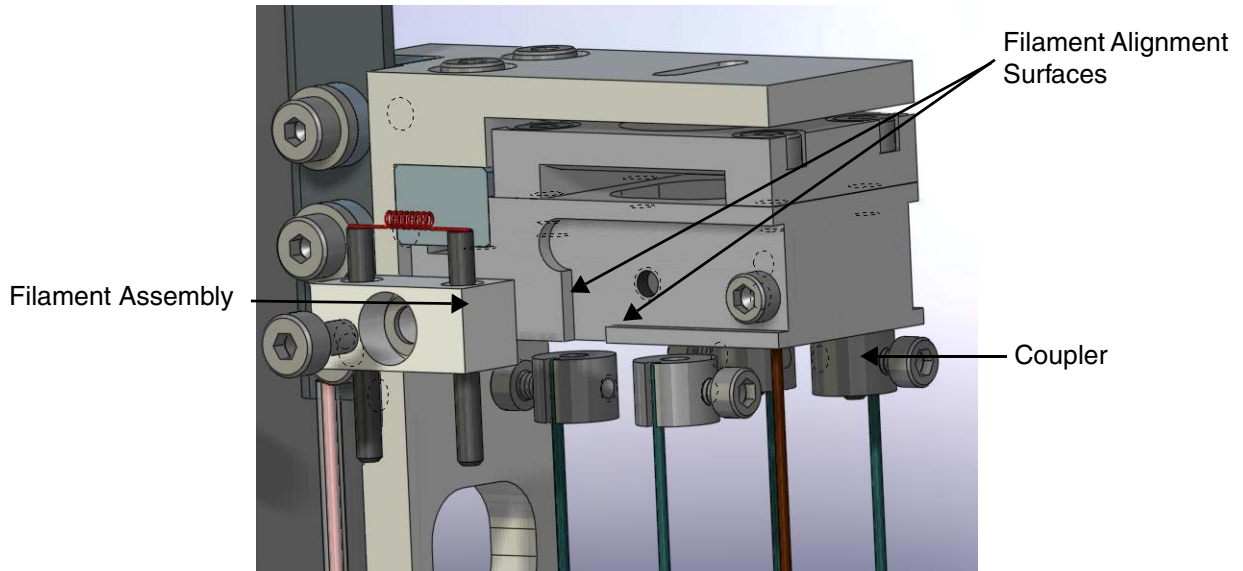
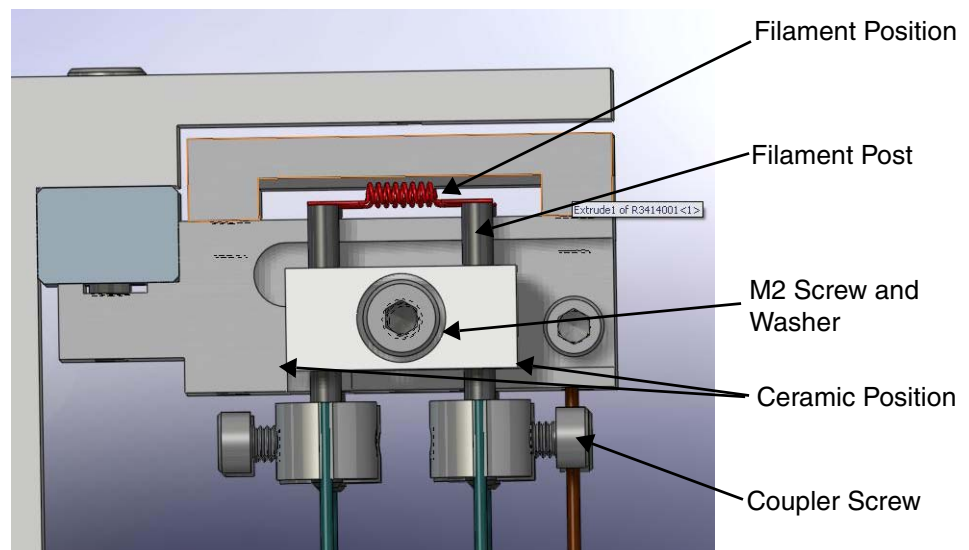
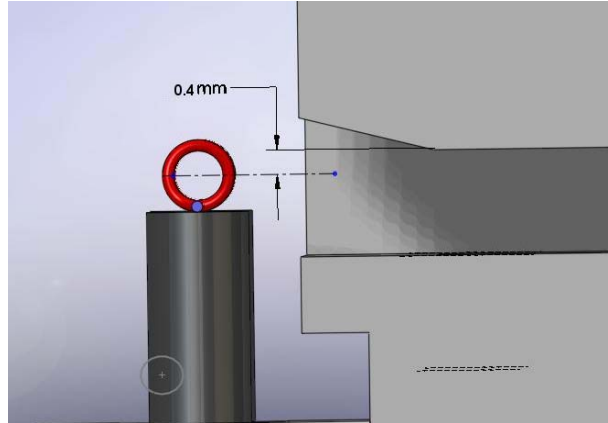

Figure B-70 Coupler and Filament Assembly
Figure B-71 Filament Position
Figure B-72 Filament Alignment
20. Guide the ceramic against the bottom and side ribs of the ion source support block (Figure B-70 and Figure B-71). Correct positioning of filament is critical for proper spectrometer operation.
21. While holding the filament in position, insert the M2 screw and washer and tighten (Figure B-71).
22. Tighten the coupler screws onto the filament posts (Figure B-71).
23. Verify ceramic is tight against the bottom and right side ribs. Visually ensure that the filament is positioned in the slot of the ion source as shown (Figure B-71 and Figure B-72).